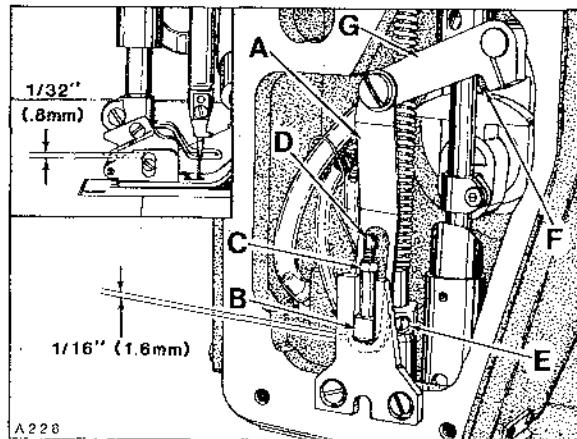
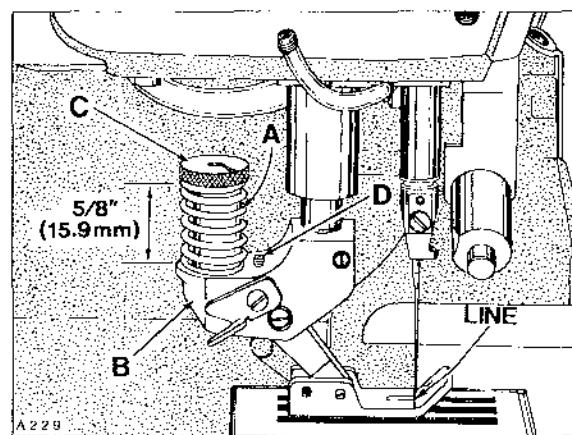

Fig. 22
Fig. 23
With needle bar at bottom of stroke and presser foot resting on throat plate, there should be $1/32$ inch (.8mm) clearance between top of screw and top of slot in presser foot as viewed in Figure 22. There should be $1/16$ inch (1.6mm) clearance between bottom of slot in lifter lever link (A) and bottom of presser bar guide (B) when foot lifter lever is released. If adjustment is required, loosen nut (C) and turn screw (D) down approximately $1/8$ inch (3.2mm) below bottom surface of presser bar guide (B). Back off presser spring regulating screw and loosen screws (E) in presser bar guide (B) so that presser foot rests squarely on throat plate and screw (D) is touching the bottom of presser bar guide plate, then retighten screws (E).
With presser foot resting on throat plate, the distance from top of spring (A, Fig. 23) to top of yoke (B) should be $5/8$ inch (15.9mm) and the line stamped across the presser foot bottom should line up with centerline of needle. As the presser foot is raised, its bottom should move VERY SLIGHTLY towards the rear... $1/64$ inch (.4mm) maximum. If adjustment is required, proceed as follows:
Remove presser spring regulating screw, presser bar spring guide and presser bar spring. Loosen nut (C, Fig. 22) and turn screw (D) down approximately 1/8 inch (3.2mm) below bottom surface of presser bar guide (B). Loosen screws (E) in presser bar guide (B). Adjust spring regulator nut (C, Fig. 23) as required, so its lower surface is 5/8 inch (15.9mm) from top of yoke (B) as viewed in Figure 23. With presser foot resting on throat plate and feed dog down below throat plate, press down on spring regulator nut (C) until the marks in presser foot bottom align with centerline of needle and positioned to keep needle in center of needle slot. Tighten screws (E, Fig. 22) securing presser bar guide to presser bar, ensuring stop screw (D) in presser bar guide is resting on bottom of presser bar guide plate.
Replace presser bar spring, spring guide and spring regulating screw. Turn regulating screw down until the top of its threaded portion is level with head casting. Rotate handwheel to position feed below throat plate with presser foot resting on throat plate. Depress presser foot lifter lever to see if presser foot bottom moves SLIGHTLY towards the rear before presser foot begins to lift. Adjustment can be made by turning stop screw (D, Fig. 23) clockwise to shorten or counterclockwise to lengthen the distance of travel.
Loosen screw (F, Fig. 22) in lifter arm (G) and rotate arm slightly as required to obtain 1/16 inch (1.6mm) clearance between link (A) and guide (B); retighten screw (F) ensuring no left to right shake in lifter arm (G).
Purpose of the feeding presser foot is to make top and bottom plies of material feed the same amount without pulling on the bottom ply. Final adjustment may be required to match plies; turning nut (C, Fig. 23) to increase pressure on spring (A) will tend to feed the bottom ply more... decreasing pressure will tend to feed the top ply more.